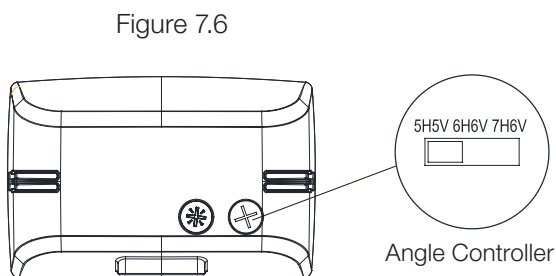
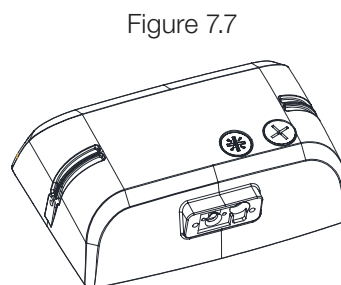

Figure 7.6
Figure 7.7
STEP 1: Open the metal plug and plastic plug with a screwdriver by turning counterclockwise; (Figure 7.6).
STEP 2: Slide the switch up and down to adjust the Angle Controller; (Figure 7.7).
STEP 3: After adjusting the required control functions; (Figure 7.7), tighten the metal plug and plastic plug by turning clockwise; (Figure 7.6).